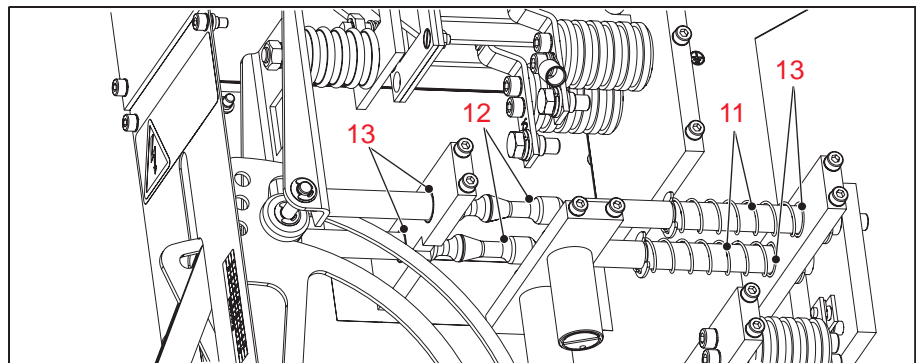

Figure 23
3. Check drive springs (11) for spring fracture or fatigue. Replace damaged drive springs, see **Figure 23**.
4. Check drive axles (12) for abrasion on the bearing surfaces of the detent mechanism. Replace damaged drive axles.
5. Check DU-bushings (13) for ease of movement. Replace the DU-bushings in the case of stiffness.